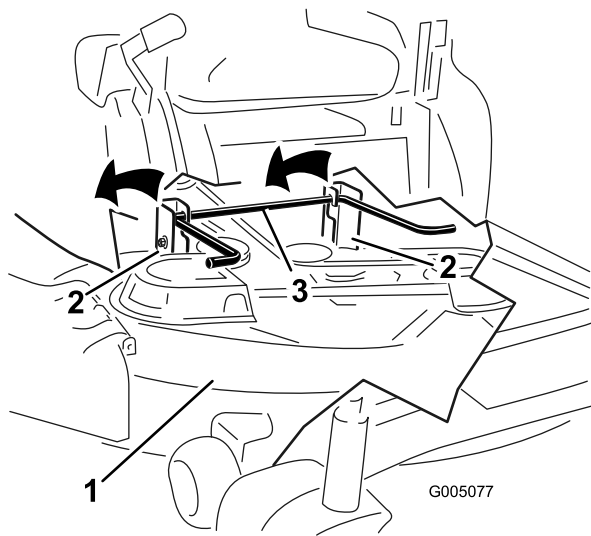

Figure 55
5. Lift the cutter deck and hanger brackets clear of the rear lift rod and lower the cutter deck carefully to the ground (Figure 55).
- 5. Lift the rear of the cutter deck and guide the hanger brackets over the rear lift rod (Figure 55).